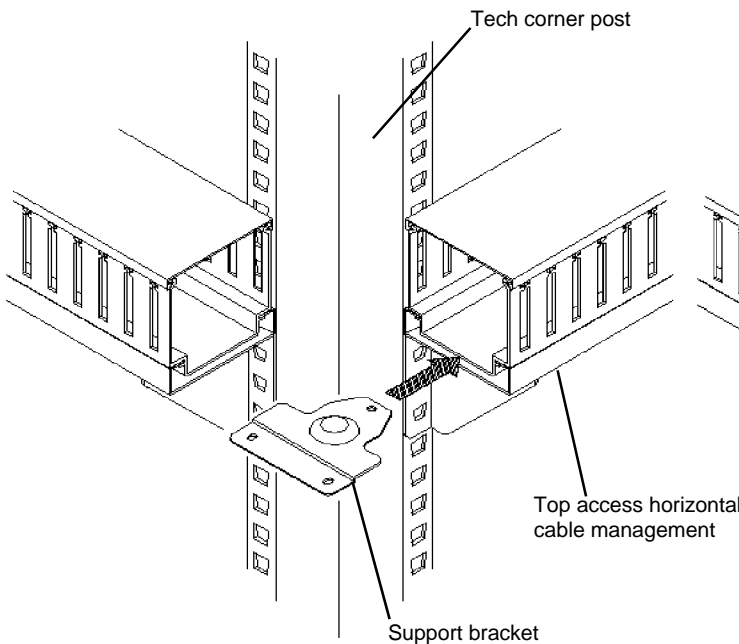

Figure 1
1. Install a **Support Bracket** into the bottom of each Top Access Horizontal Cable Management section. See **Figure 1**.